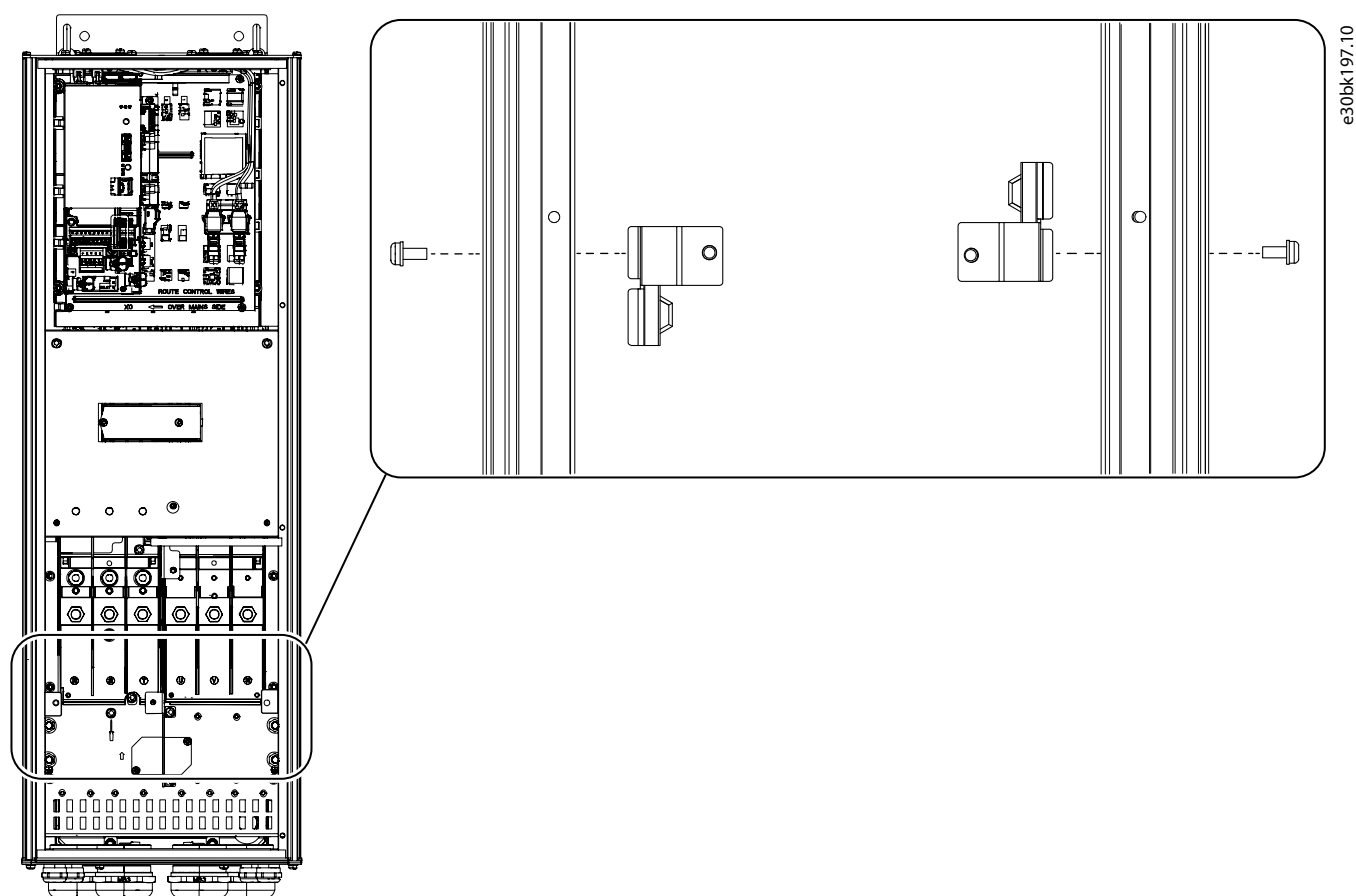

Figure 1: Removal of Existing Side Brackets
1. Remove the existing side brackets by removing 2 screws (T25) from the cabinet exterior, 1 from the left bracket and 1 from the right bracket. See Figure 1.